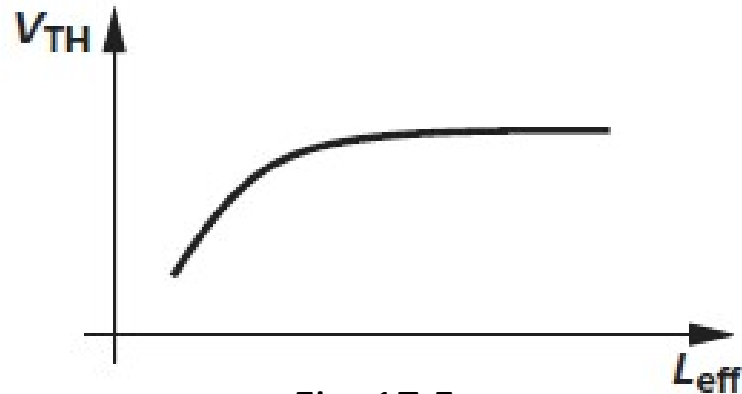

Fig. 17.5
- As shown in Fig. 17.5, transistors fabricated on the same wafer but with different lengths yield lower  $V_{TH}$  as  $L$  decreases